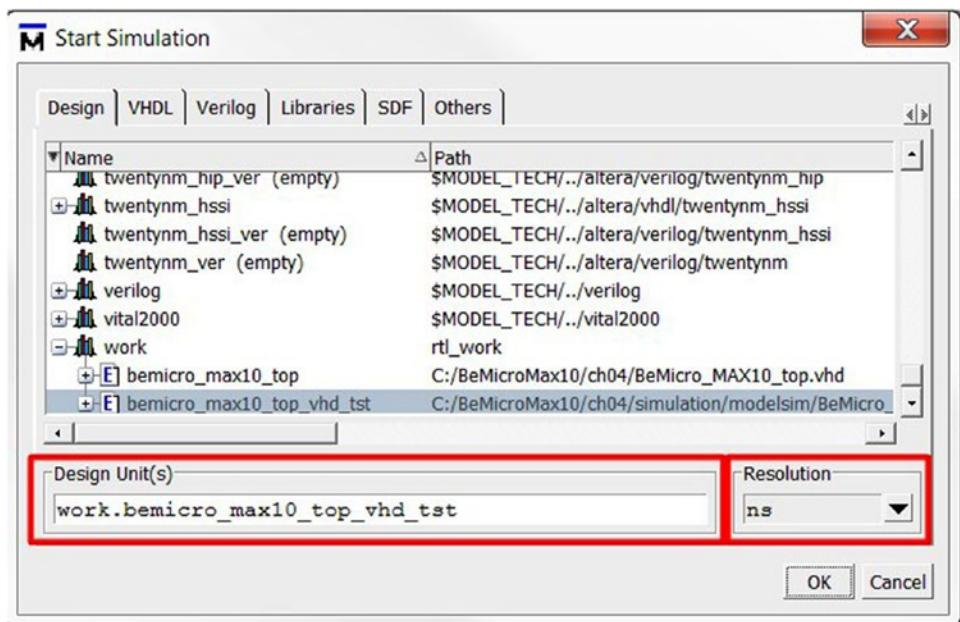
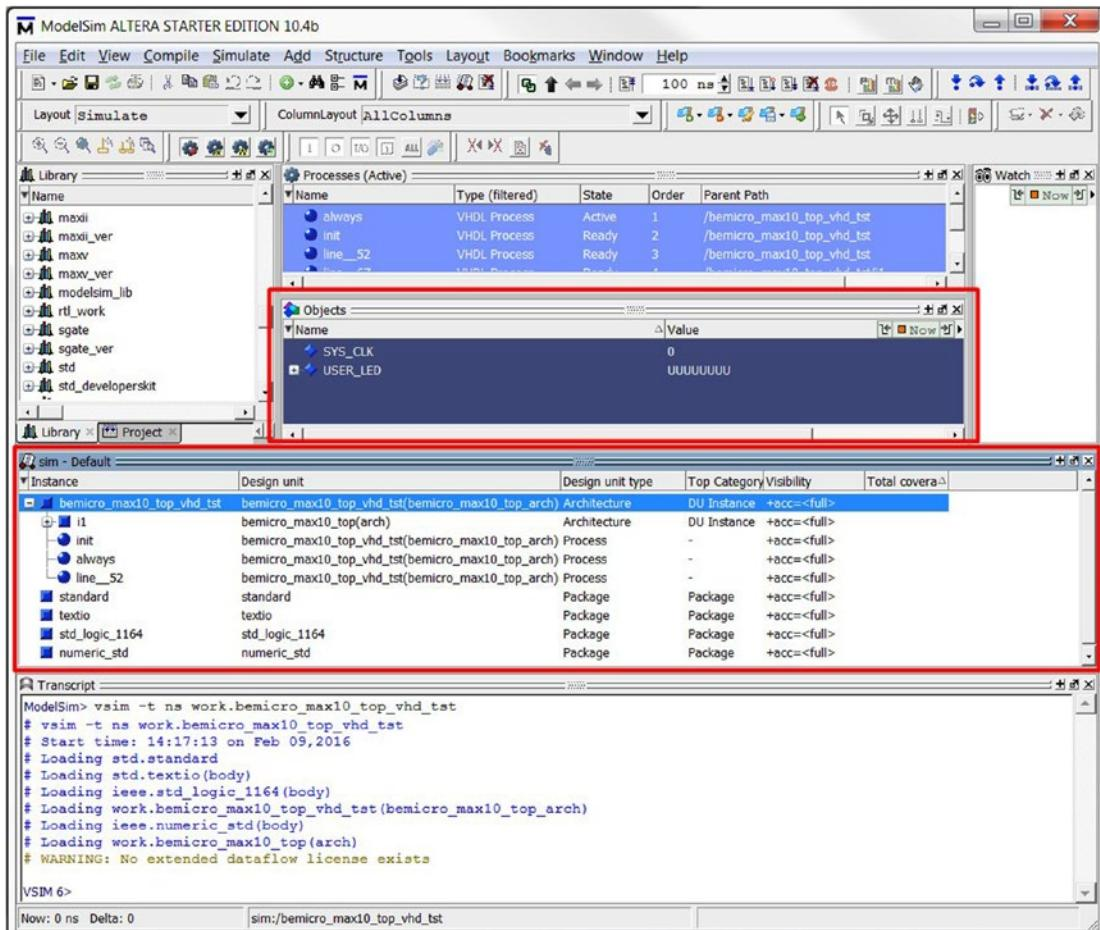

Figure 4-44. Recompile bemicro_max10_top_vhd_tst
Figure 4-45. Simulation started
- Click the “+” icon next to the **work** icon, select **bemicro_max10_top_vhd_tst**, click the black triangle in the resolution box and select **ns**. All the settings should look like those in Figure 4-44 within the red box. Click **OK** to start simulation. The simulation will look like Figure 4-45.
There are two important boxes in the simulation: **Sim-Default** and **Objects**. **Sim-Default** shows the design structure relations. The **Object** box displays the object inside the selected (in the sim-Default) module. Figure 4-45 shows that we selected the test bench module (`bemicro_max10_top_vhd_tst`) and the object box show two objects: `SYS_CLK` and `USER_LED`.